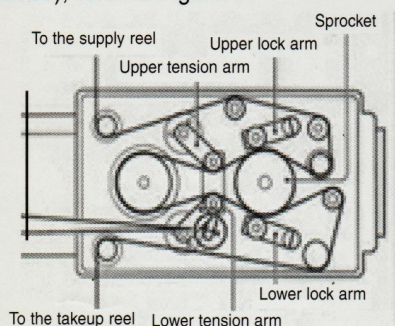

Figure 1
- Ensure that Film is threaded properly through the SDDS Reader Unit (DFP-R2000), refer to Figure 1